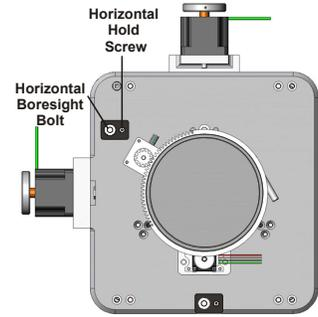
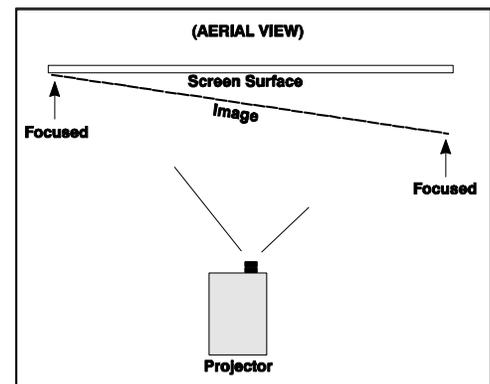

Figure 2-37 Horizontal Boresight
Figure 2-39 Aerial View Illustrating Misaligned Boresight
1. The Horizontal Hold Screw acts as counter-resistance to hold the lens mount in place once set. Before adjusting the boresight, loosen the **Horizontal Hold Screw**. See **Figure 2-37**.
- a. If the right side of the image comes into focus before the lens is completely retracted, then the image focuses in front of the screen. See **Figure 2-39**. To correct this problem, adjust the **Horizontal Boresight** bolt to direct or aim the lens mount towards the **LEFT** to balance out the left/right edges. See **Figure 2-37**.